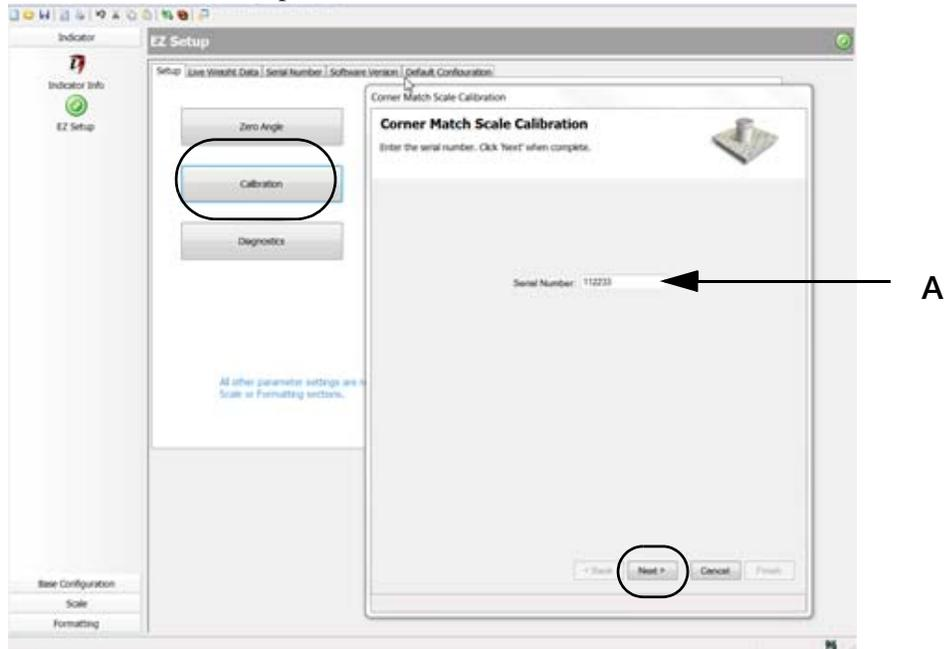

Figure 4-21. Enter Serial Number Information
2. Enter the six digit serial number of the scale (Figure 4-21 A). The serial number can be found on the top right cleat of the scale back plate or the serial tag installed on the scale. If the serial number is incorrect or 0, enter the correct serial number and press **Next** to store that number.